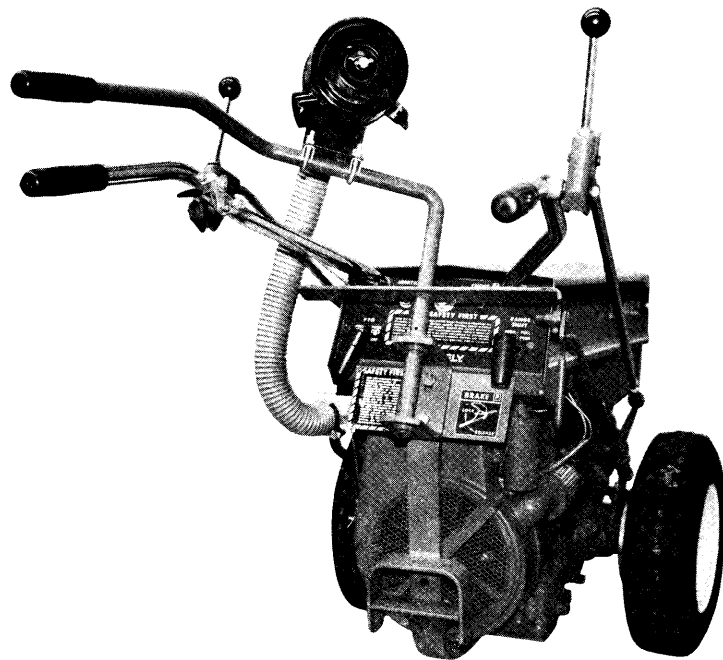

Fig. 1
When the tractor is to be equipped with a remote air cleaner and a steering brake kit, the air cleaner canister assembly must be located on the brake handlebar weldment instead of the instrument panel. See figs. 1 & 2.
- d. After installing the steering brake kit attach the remote air cleaner canister assembly to the brake handlebar weldment with the muffler clamps (part No. 14728) as shown and located in figs. 1 & 2.
- c. Attach the remote air cleaner canister assembly to the brake handlebar weldment with the muffler clamps (part No. 14728) as shown and located in figs. 1 & 2. Route the air cleaner hose on the outside of the handlebar and control rods of the tractor, making sure the hose clears the tractor control rods under any use situation.